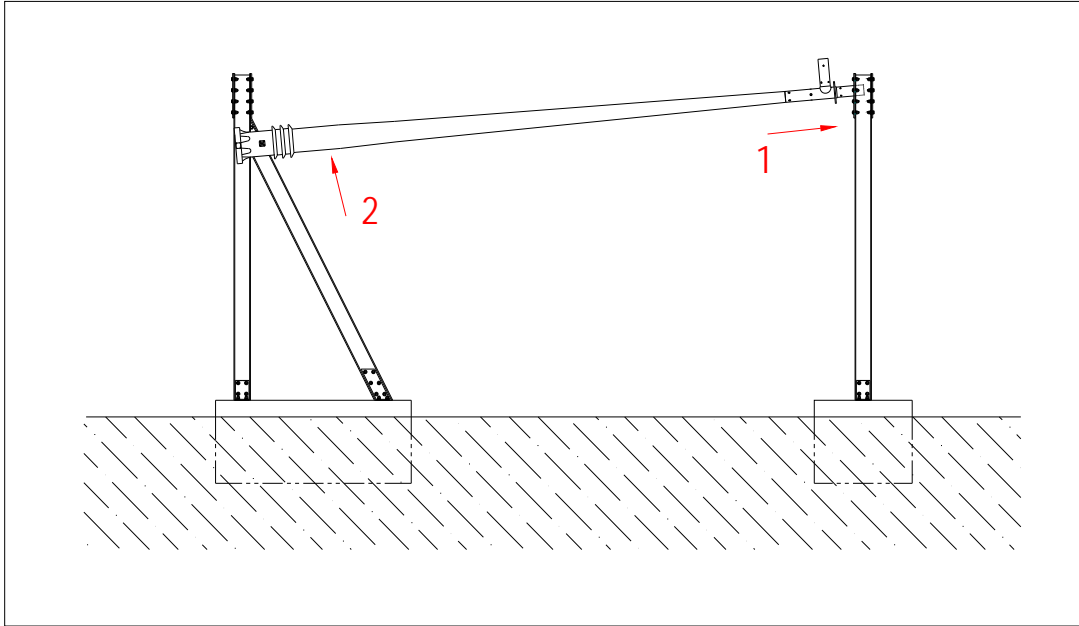

Figure 4-12 Assembly step 14
- (14) Hoist the lower antenna section up horizontally, so that the adapter shaft fits into the holes of the two-legged assembly and then so that the base hole pattern lines up with the hole pattern in the front base side plate. The legs may need to be stretched out a bit to do this. Refer to Figure 4-12.